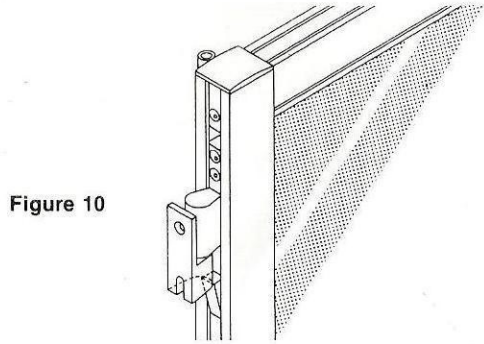

Figure 10
4.1 Temporarily fit the hinge sockets to the hinge posts. Each hinge post has a retaining catch which is depressed as the pin enters the socket. The catch is designed for top hinged panes and prevents the pane sliding during operation. When the pin is fully inserted, allow the retaining catch to clip over the end of the socket (Figure 10).